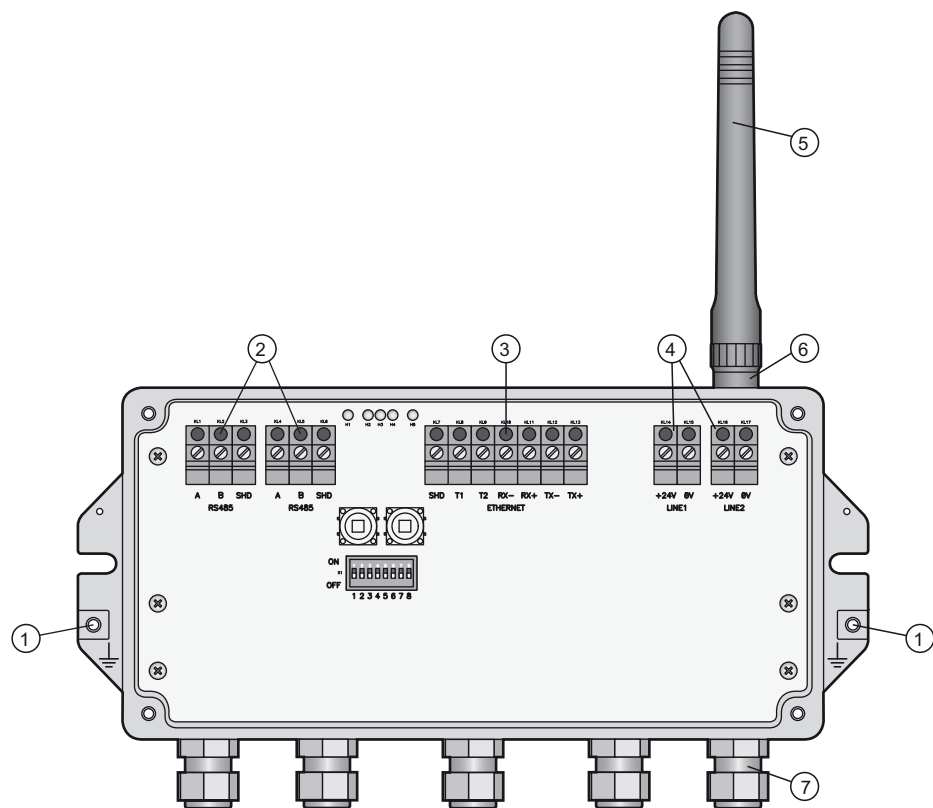

Fig. 5-1: Connections and interfaces
See Figure 5-1 on page 22, Item 6.
5. Connect the 24 VDC power cable to the first power supply connection "Line 1" observing polarity. See Figure 5-1 on page 22.